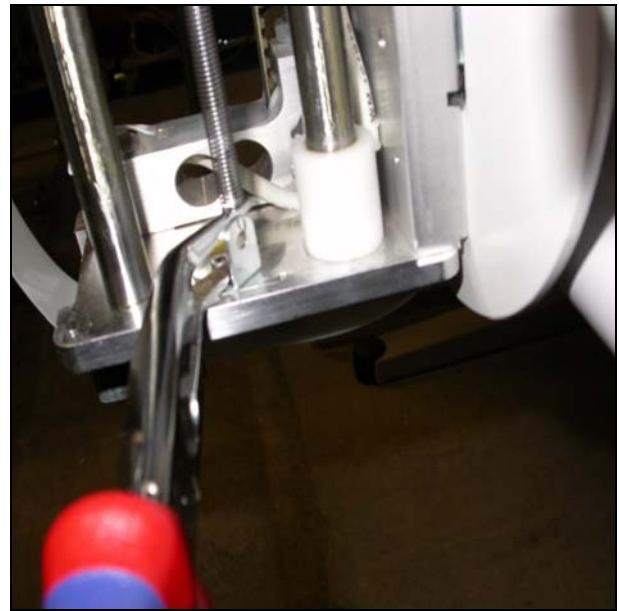

Fig. 2
- Unhook (e.g. by long-nose pliers) the lower end of the spiral spring from the rectangular bracket (Fig. 2). Unwind the cord counter-clockwise.